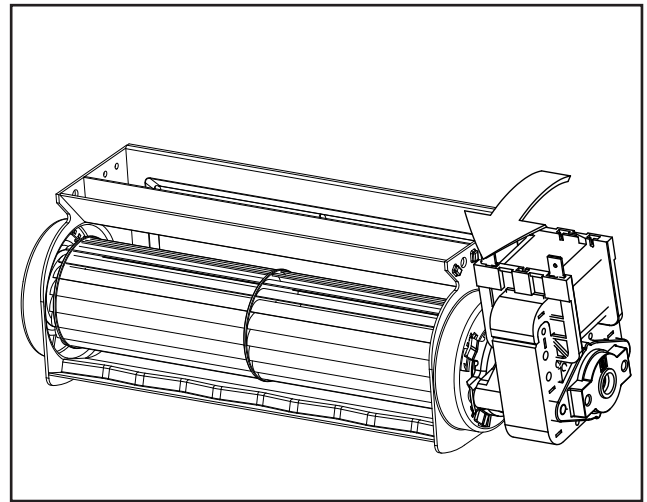

Figure 33: Unlocking the motor
- Twist the motor counterclockwise until you feel it click out of place (Figure 33).